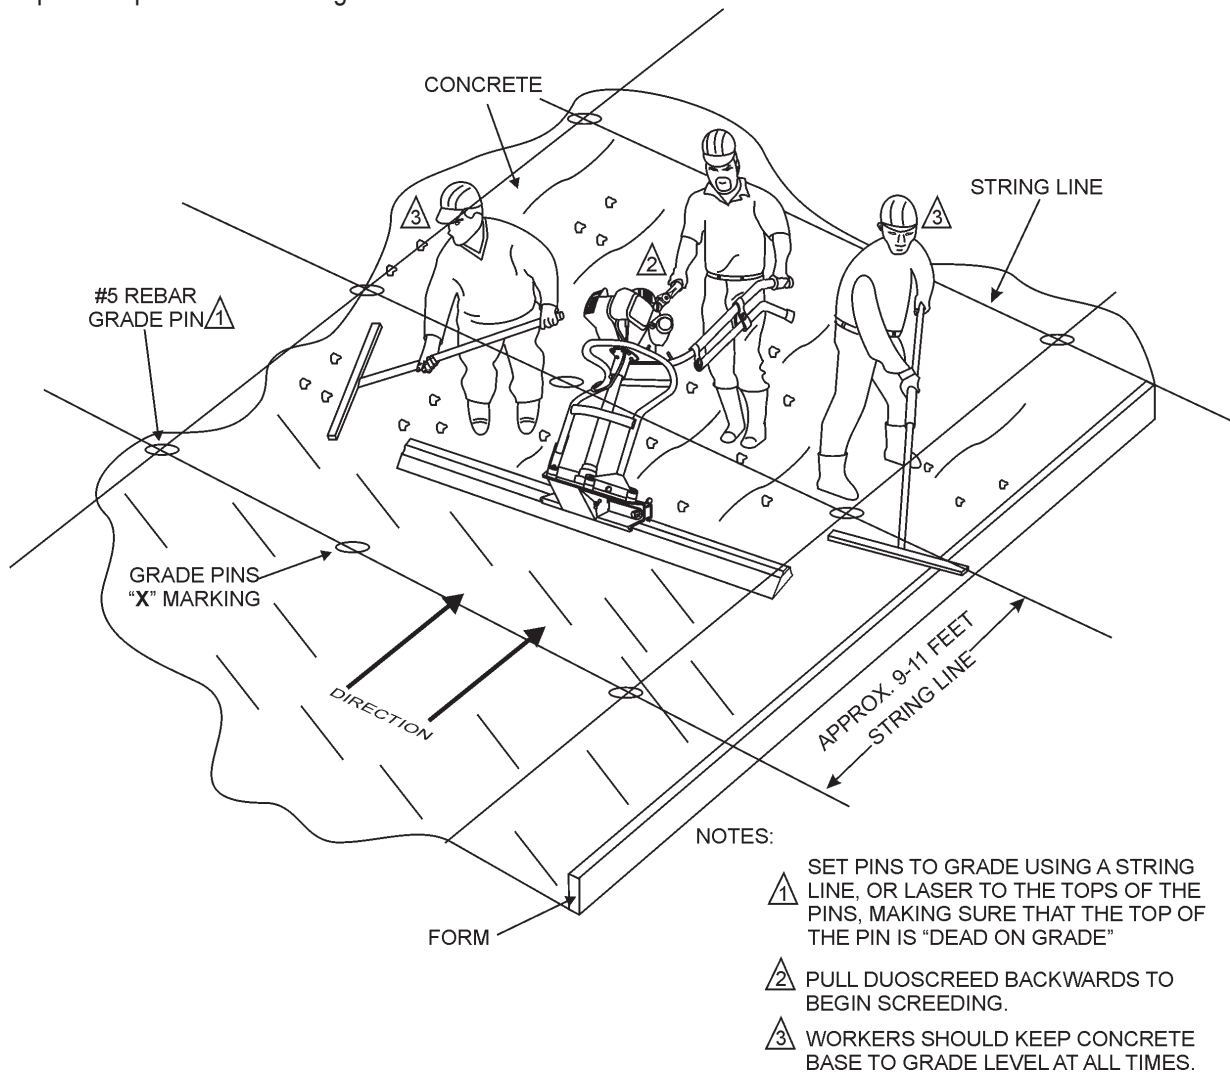

Figure 14. DuoScreed On Forms and Grade Pins
2. Prepare a grid of #5 rebar pins (Figure 14) equally spaced approximately every 9 to 11 feet. If a 10 ft. screed blade is going to be used space the grade pins every 9 feet, if a 12 ft. screed blade is required, space the grade pins every 11 ft. Make sure to drive the pins deeply into the ground.